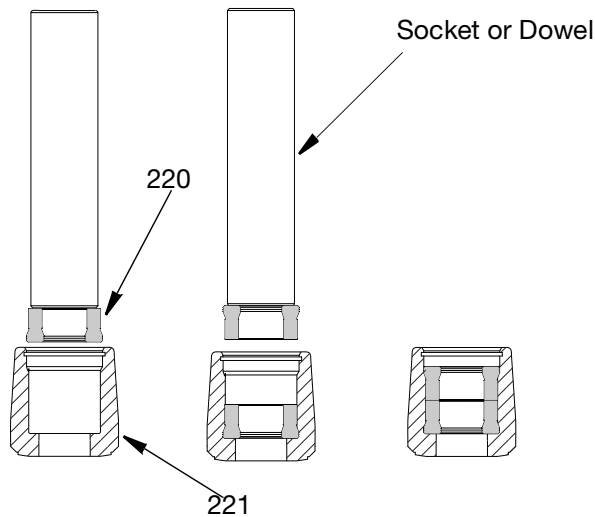

FIG. 20
2. Using a suitable size socket or dowel, insert the lower shaft seals (220) with the seal face (spring side) facing down press the seal to the bottom of the poppet inlet check valve (221).
3. Place the second lower shaft seal (220) face up into the poppet inlet check valve (221). Insert using a suitable size socket or dowel. See FIG. 20.